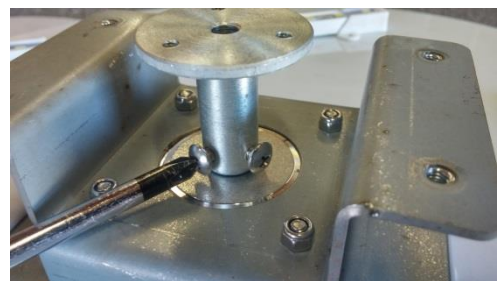

Figure 6: Replacing the set collar on the motor shaft
5. Position the bottom of the set collar to 1/16” from the motor face and tighten the screws so that the screws make contact with both slots and are firmly secured. (See Figure 6)